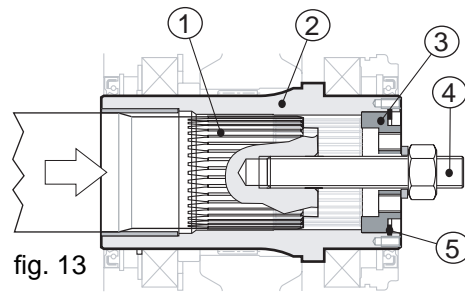

fig. 13
Now insert the backplate (pos. 3) then the inner retaining ring (pos. 5) securing the backplate (pos. 3). Now when you tighten the threaded rod nut, the machine shaft will abut with the backplate (see Fig.13).